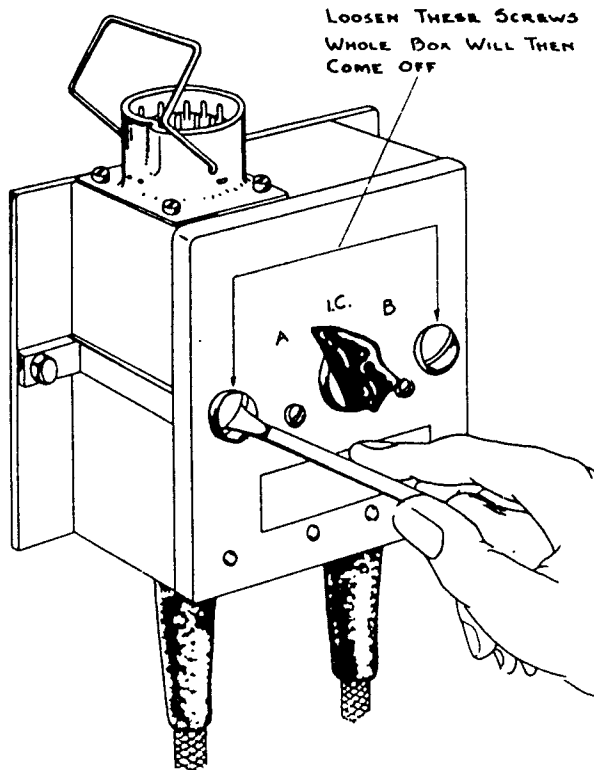

FIG. 4--REMOVING CONTROL UNIT
6. To remove Control Unit No. 1, proceed as illustrated in Fig. 4. Other types of control units are removed similarly.